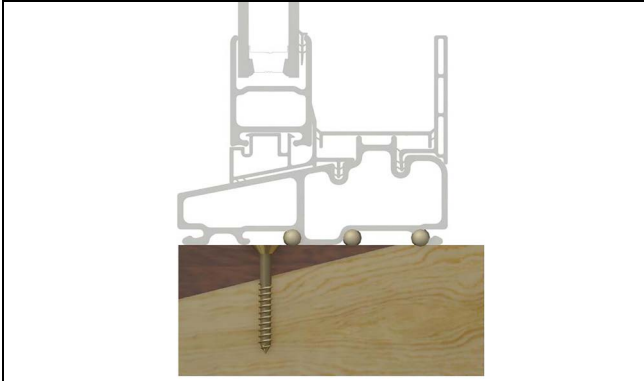

Figure 14
1. On units with a frame width of 41 1/2" (1054) or more, place three 3/8" (10) beads of construction adhesive on the sill so that the window will contact these beads in all three locations See Figure 14. Place construction adhesive below the sill on all Casement/Awning and Round Top products.